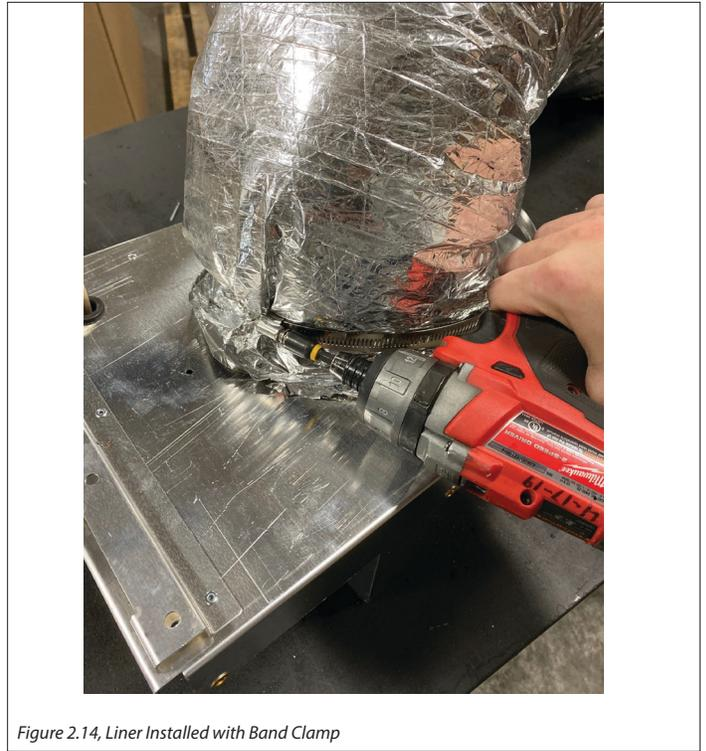

Figure 2.14, Liner Installed with Band Clamp
13. Slide the band clamp over the remaining unattached insulated liner. Use (3) sheet metal screws to attach the inner liner to the HTK-EXT. See Figure 2.14.
16. After you complete the necessary wiring, reinstall the cover assembly using (6) screws previously removed.